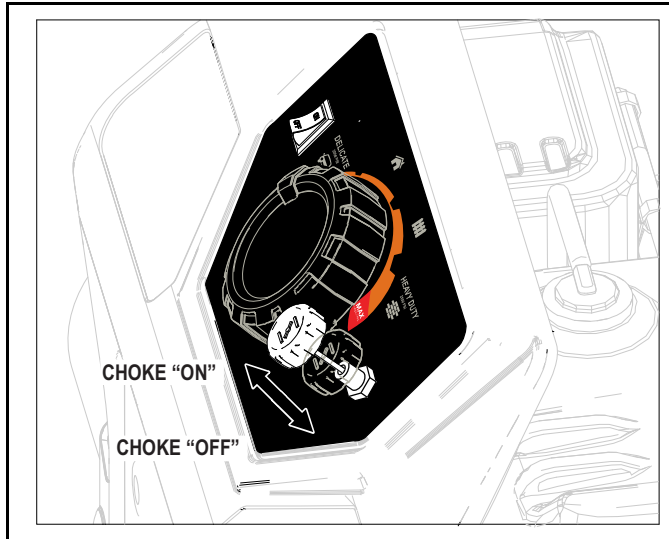

Figure 5-6. Choke Knob
7. When engine starts, slowly push the choke knob in to the "OFF" position as engine warms. If engine falters, pull choke knob out to the "ON" position, then push in to the "OFF" position (Figure 5-6).